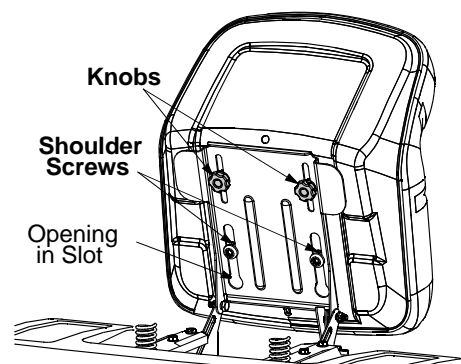

Figure 3
- If your seat was shipped mounted backwards on the seat pivot bracket, pull out the tab found on the seat stop and hold it open while sliding the seat off the seat pivot bracket. See Figure 3.
1. Position the shoulder screws (found on the base of the seat) inside the slot openings in the seat pivot bracket. See Figure 3.
3. Select desired position for the seat, and secure with the two knobs removed earlier. See Figure 3.